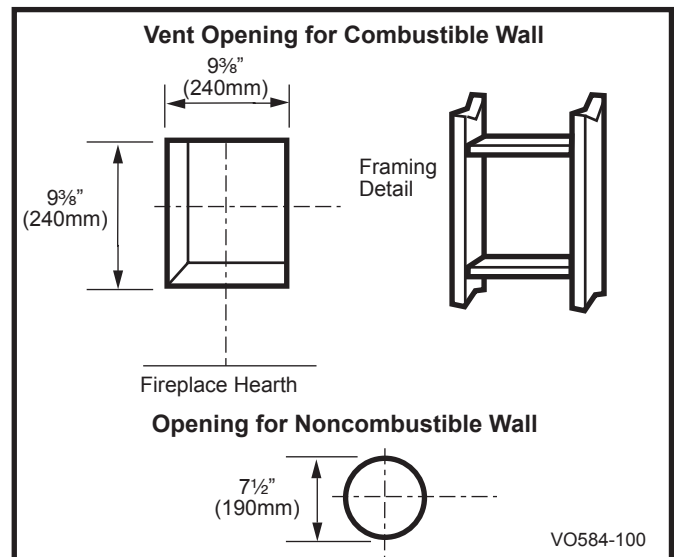

Fig. 13 Locate vent opening on wall.
Locate vent opening on the wall. It may be necessary to first position the fireplace and measure to obtain hole location. Depending on whether the wall is combustible or noncombustible, cut opening to size. (Fig. 13)
**Combustible Walls:** (Fig. 13) Cut a 93/8"H x 93/8"W (240 x 240 mm) hole through the exterior wall and frame as shown.
**Noncombustible Walls:** (Fig. 13) Hole opening must be 71/2" (190 mm) in diameter.
1. Establish vent hole through the wall. (Fig. 13)